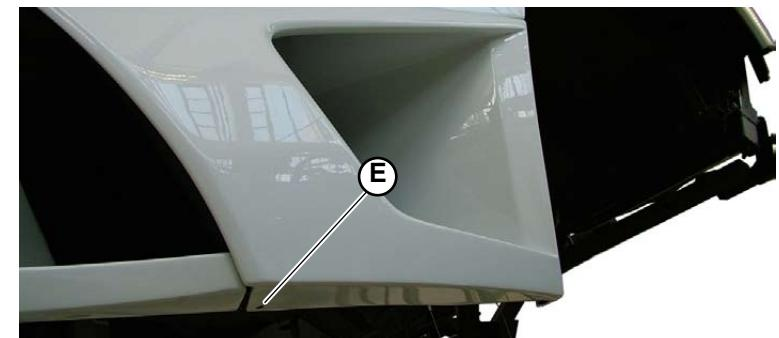

Fig.4
5. Unscrew the screw (E-Fig.4) on the lower part of the conveyor and remove the conveyor itself.